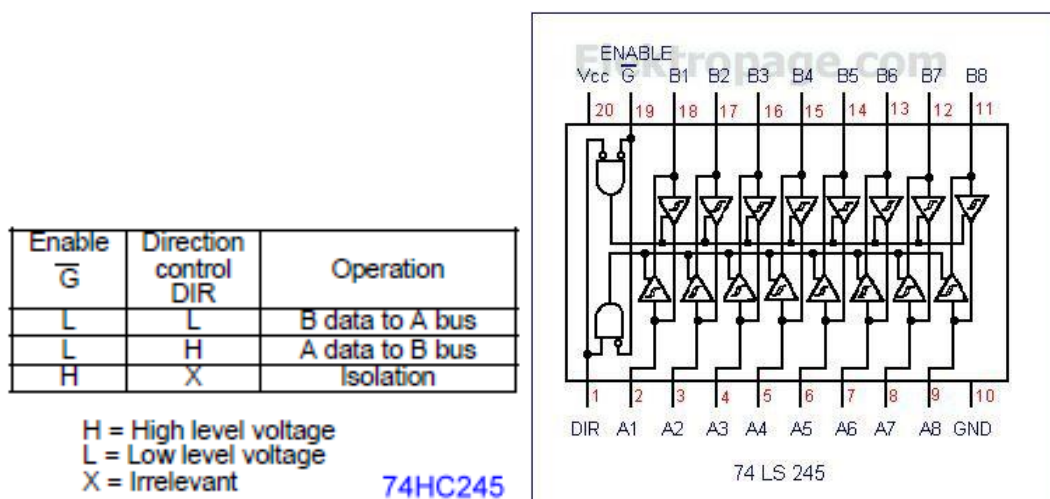

Fig.36 Logic diagram & function table of 74LS245
- ii. The fig. 36 shows the logic diagram of the bidirectional buffer 74LS245, also called an octal bus transceiver. It includes 16 bus drivers, eight for each direction, with tri-state output.